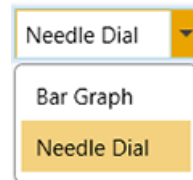

Figure 6-8. Tuning – Change Display View
1. From the drop-down menu next to Range in the Tuning window, select the style (either a Bar Graph or the Needle Dial), as shown in Figure 6-8. This changes the style in which you want measurements displayed in this panel.